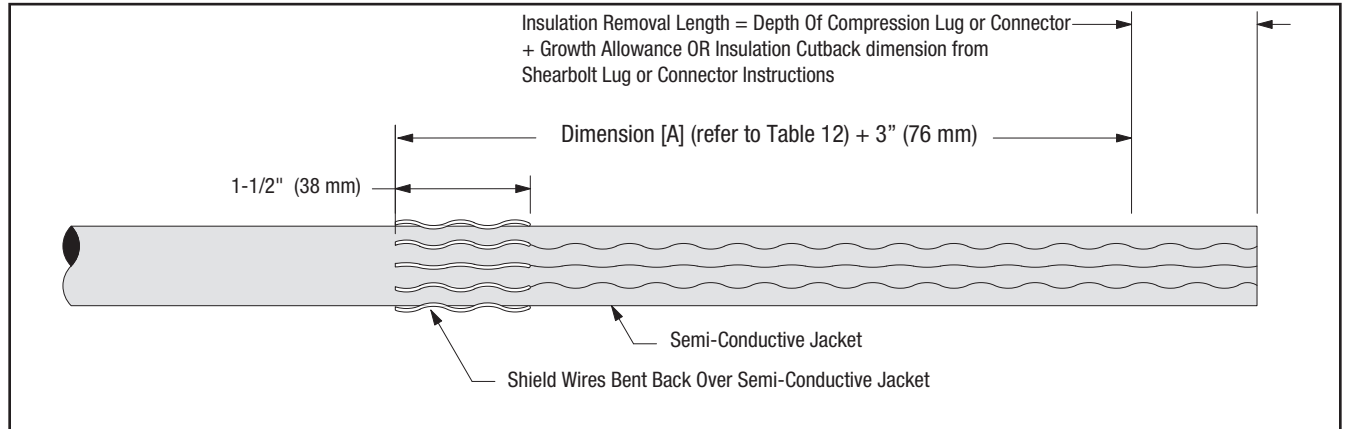

Figure 17
- 12.6 Remove constant force spring. Bend shield wires back upon semi-conductive jacket 1-1/2" (38 mm). Cut excess shield wire and discard (Figure 17).